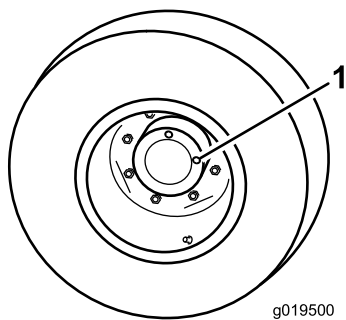

Figure 15
1. With machine on level surface, position the wheel so 1 check plug is at the 12 o'clock position and the other is at 3 o'clock position (Figure 15).
1. Check/drain plug (2)
2. Remove the plug at the 3 o'clock position (Figure 15).